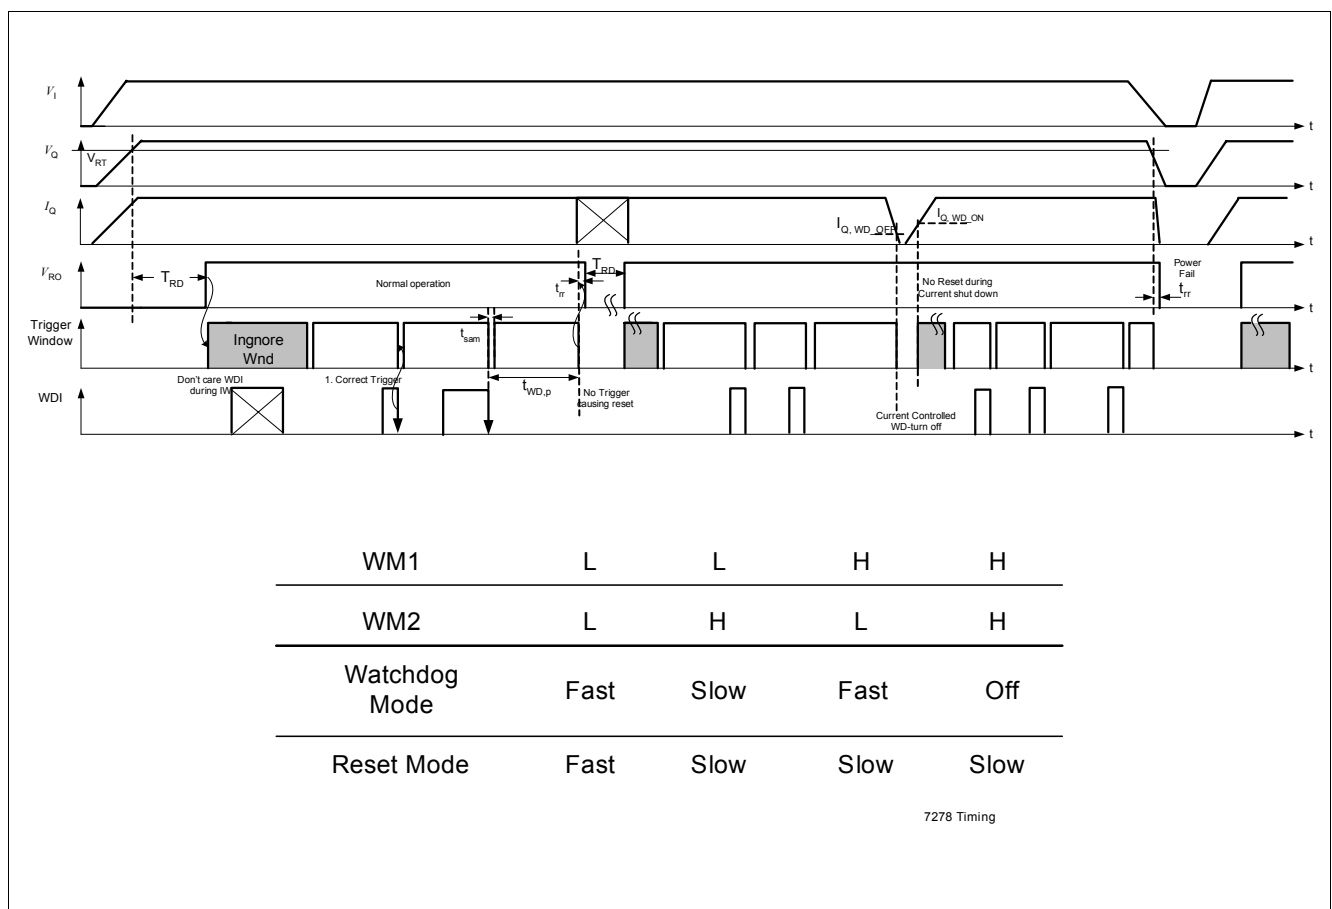

Figure 5 Watchdog Timing Diagram, Watchdog and Reset Modes
The watchdog uses a fraction of the charge pump oscillator's clock signal as timebase. The watchdog timebase can be adjusted using the pins WM1 and WM2 (see Figure 5). The watchdog can be turned off setting WM1 and WM2 to high level. The timing values used in this text refer to typ. values with WM1 and WM2 connected to GND (fast watchdog and reset timing).
Figure 5 shows the state diagram of the watchdog (WD) and the mode selection. After power-on, the reset output signal at the RO pin (microcontroller reset) is kept LOW for the reset delay time T_{RD} of typ. 16 ms. With the LOW to HIGH transition of the signal at RO the device starts the ignore window time t_{CW} (32 ms). Next the WD starts the Watchdog Period (time frame within a trigger at WDI must occur). From now on the timing of the signal on WDI from the micro controller must correspond the WD-Period $t_{WD,p}$ correspondent the electrical characteristics and based on the setting on the WM pins. A Re-Trigger of the WD-Period is done with a HIGH-to-LOW Transient at the WDI-pin within the set $t_{WD,p}$.